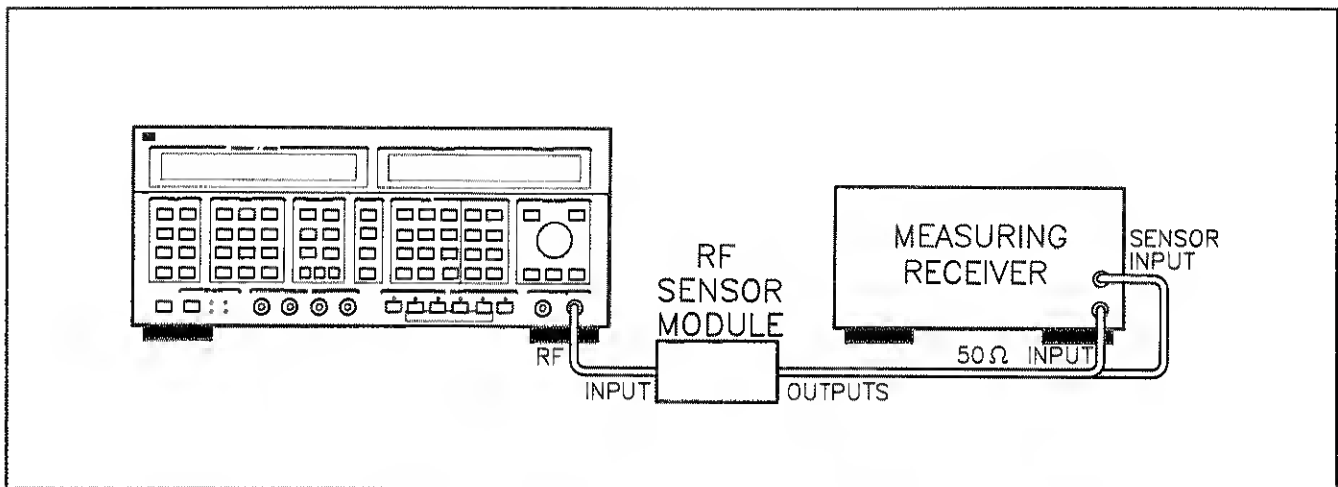

Figure 3-1. Carrier Amplitude (Direct) Test Setup
1. Connect the equipment as shown in figure 3-1. (Connect the RF input of the sensor module directly to the Signal Generator's RF output connector.)